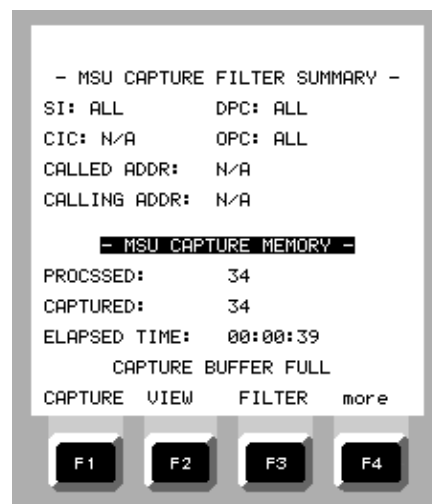

Figure 2-133. MSU CAPTURE FILTER SUMMARY After Capture
9. On the MSU CAPTURE FILTER SUMMARY screen, press F1 (CAPTURE) to initiate the capture operation. The PROCESSED and CAPTURED message counters will increment as each message is detected on the line and as selected messages are captured based upon the selected filters (Figure 2-133). The ELAPSED TIME counter will increment until the capture operation is stopped by pressing F1 (STOP) again or when the capture memory is filled.